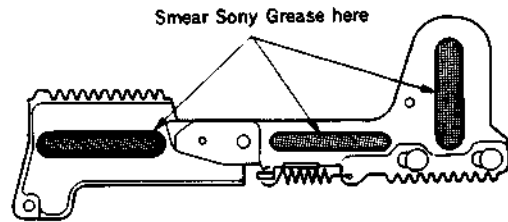

Fig. 3
(1) Replace the L Slider Assembly with a new one and smear Sony Grease to the three longitudinal holes as shown in figure 3.
(2) Assemble the parts with Removal Steps (8) to (11) in reverse order.